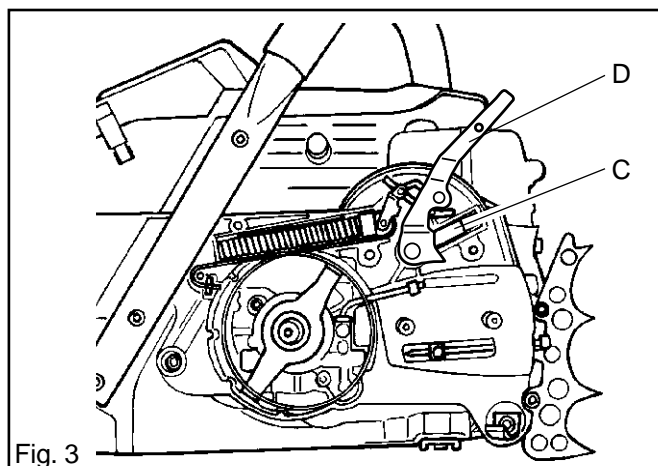

Fig. 3
6. Press down the retaining bush (C) and remove the lever arm (D). See fig 3.
10. Take out the retaining bush (C) and spring. See fig 3.
3. Grease and insert the lever arm (D). See fig. 3.
4. Grease and insert the retaining bush (C) and spring. See fig. 3.